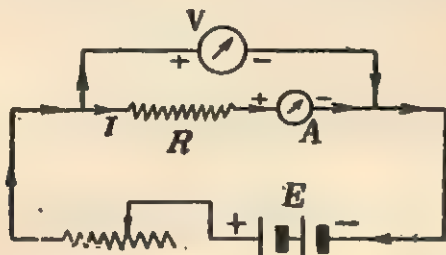

Fig. 12.18. Circuit to determine the resistance  $R$ .
**Procedure.** (1) Determine the individual resistances  $r_1, r_2, r_3$  as explained in § 12.06 by making the circuit connections in accordance with the circuit diagram of Fig. 12.18. The resistance  $R$  should